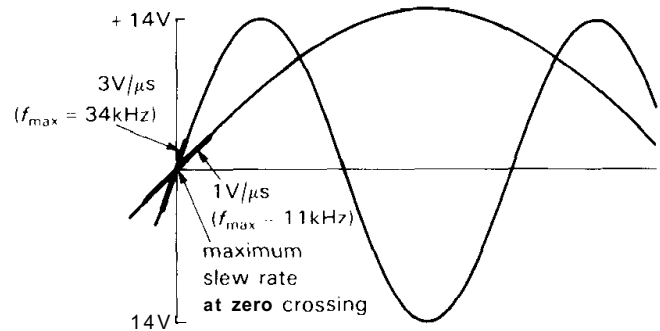

Figure 4.29. Slew-rate-induced distortion.
The op-amp "compensation" capacitance (discussed further in Section 4.32) and small internal drive currents act together to limit the rate at which the output can change, even when a large input unbalance occurs. This limiting speed is usually specified as *slew rate* or slewing rate (SR). For the 411 it is $15\text{V}/\mu\text{s}$; low-power op-amps typically have slew rates less than $1\text{V}/\mu\text{s}$, while a high-speed op-amp might slew at $100\text{V}/\mu\text{s}$, and the LH0063C "damn fast buffer" slews at $6000\text{V}/\mu\text{s}$. The slew rate limits the amplitude of an undistorted sine-wave output swing above some critical frequency (the frequency at which the full supply swing requires the maximum slew rate of the op-amp, Fig. 4.29), thus